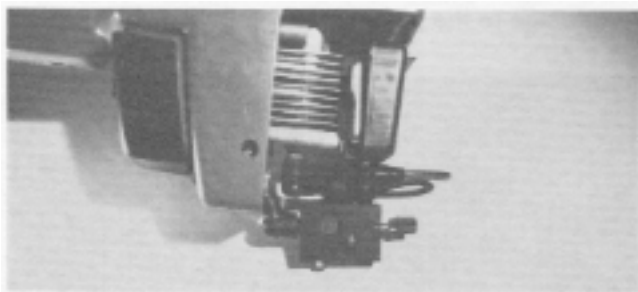

Figure 15
4. Attach a spark or ignition tester as shown in Figures 15 or 16.